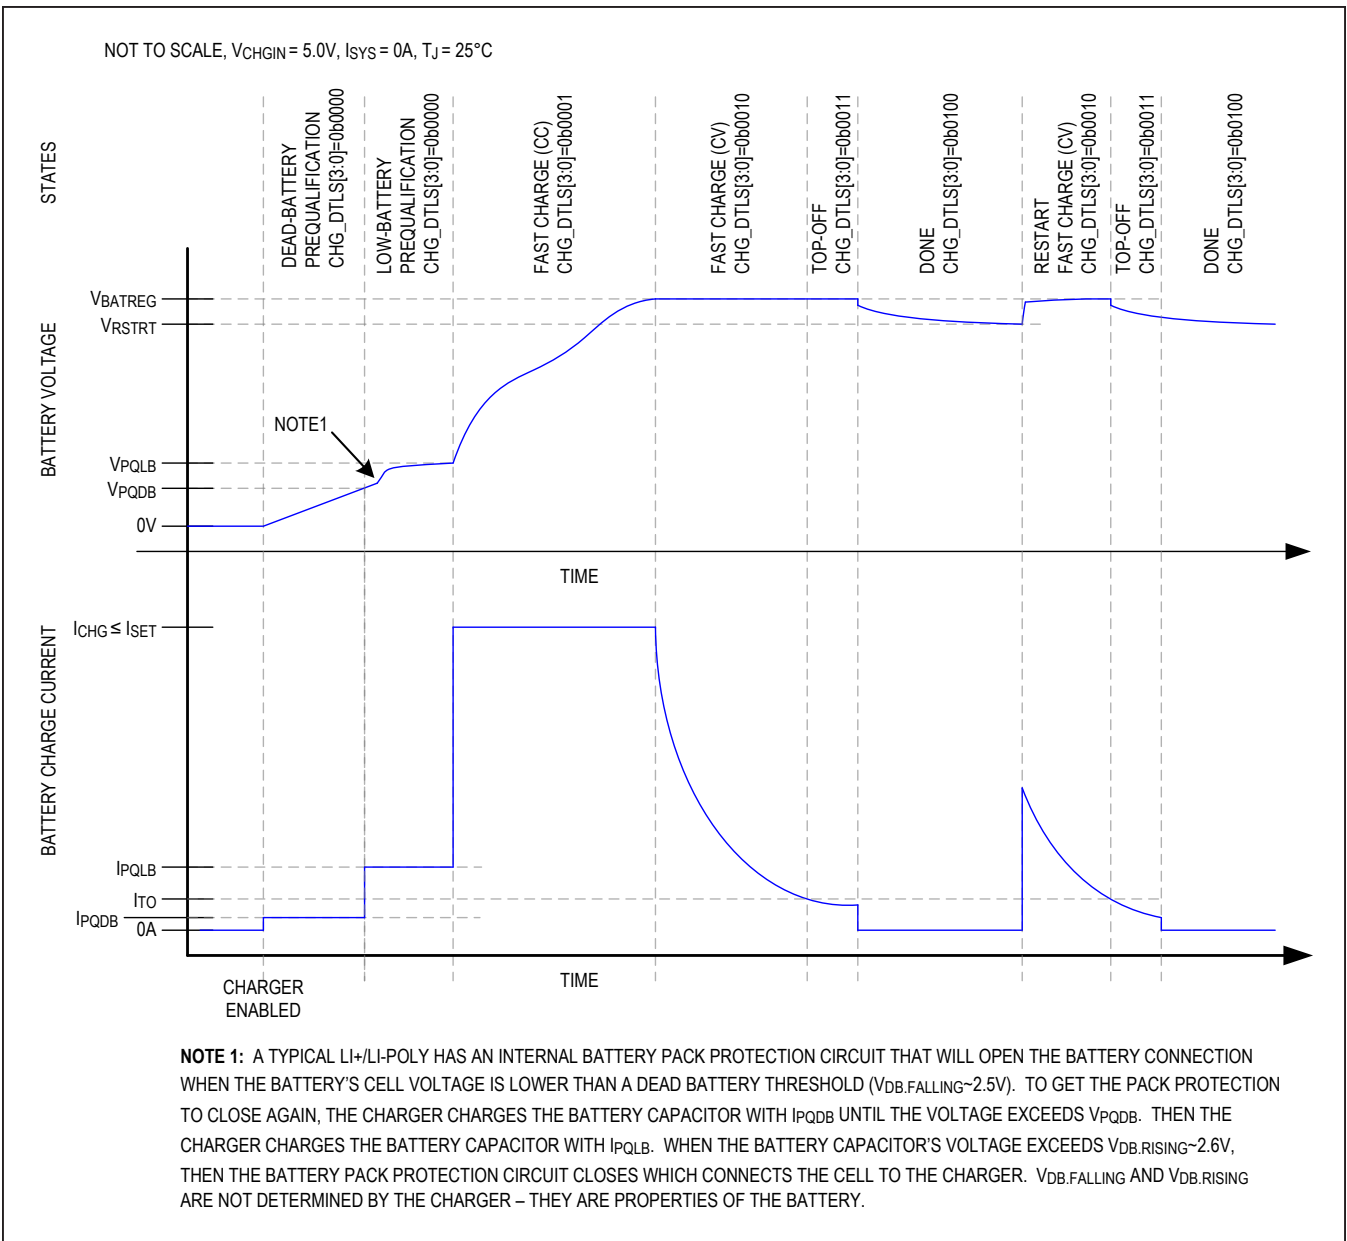
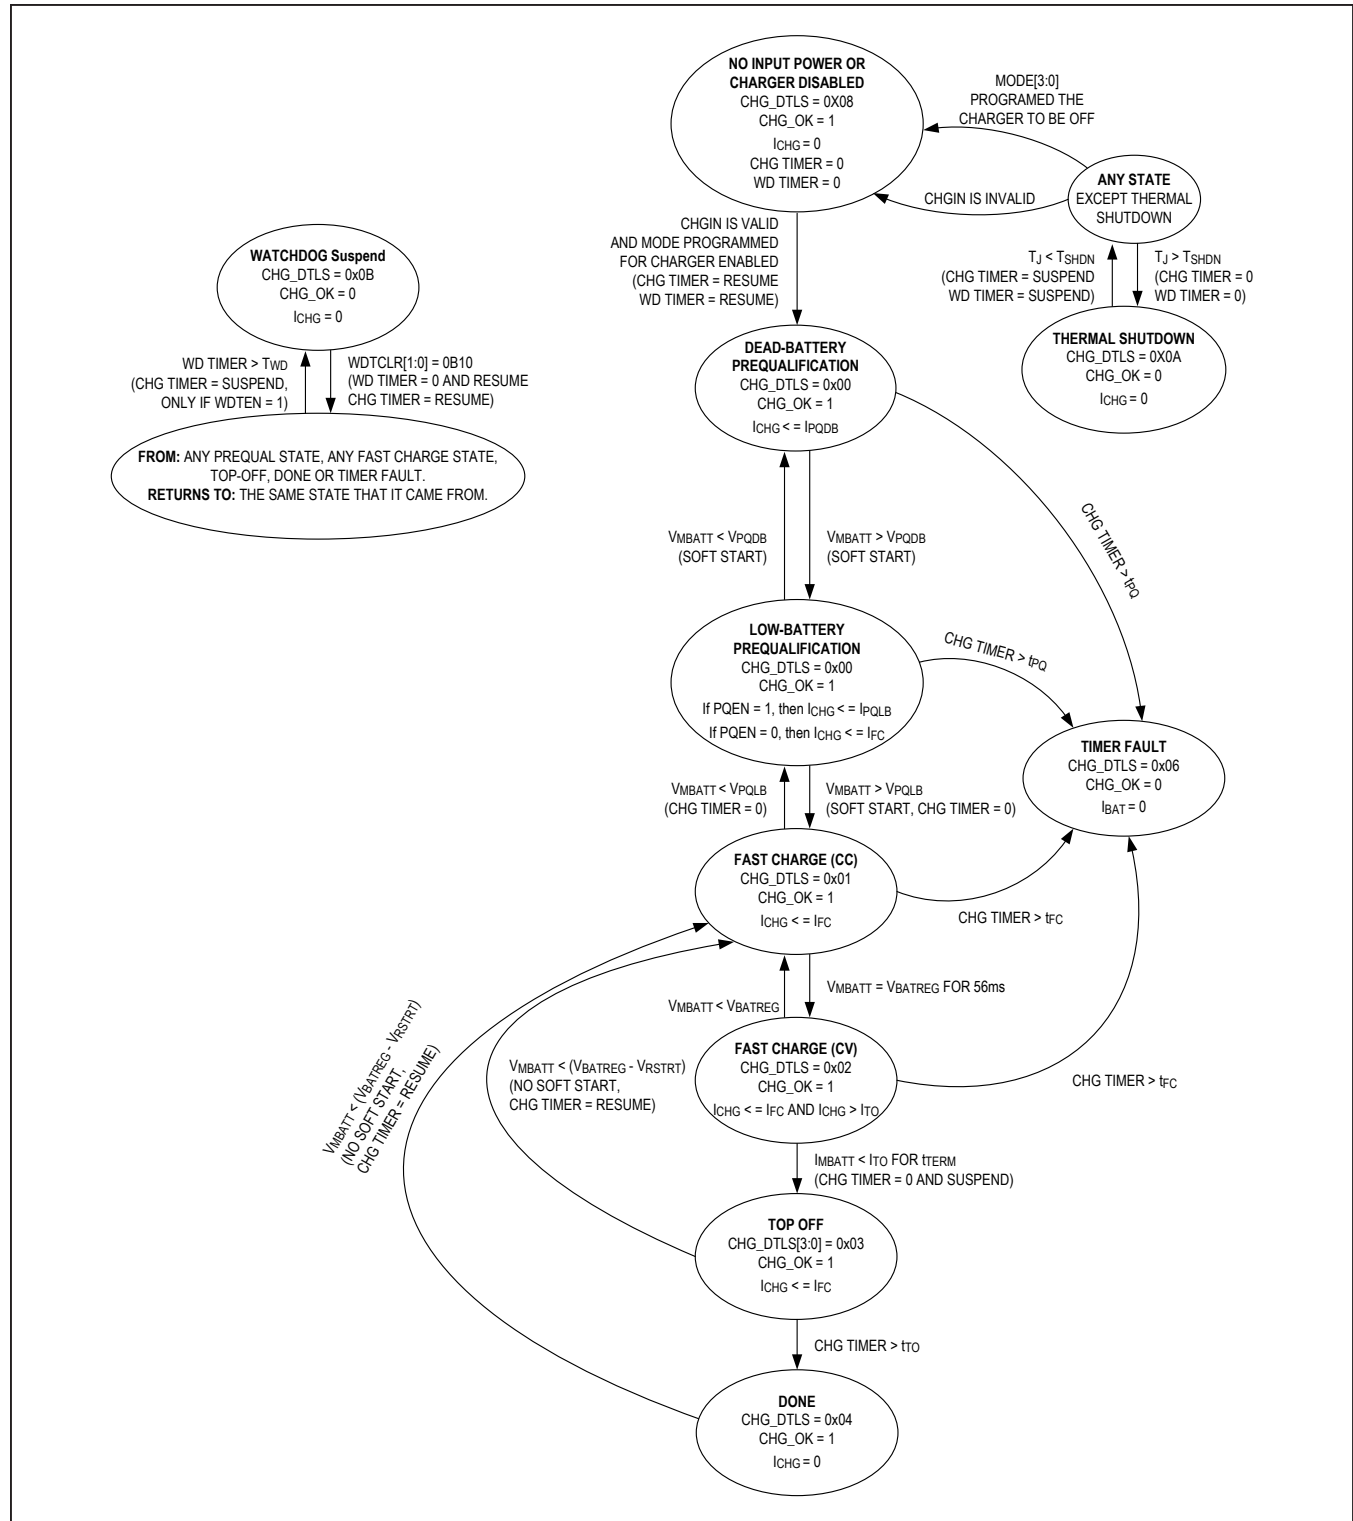

Figure 6. Li+/Li-Poly Charge Profile
Figure 7. Charger State Diagram
The MAX77818 utilizes several charging states to safely and quickly charge batteries as shown in Figure 6 and Figure 7. Figure 6 shows an exaggerated view of a Li+/Li-Poly battery progressing through the following charge states when there is no system load and the die and battery are close to room temperature: daed battery/low battery prequalification → fast-charge → top-off → done.
From any state shown in Figure 7 except thermal shut-down, the no input power or charger disabled state is entered whenever the charger is programmed to be off or the charger input CHGIN is invalid. After being in this state for t_{SCIDG} , a CHG_I interrupt is generated, CHG_OK is set, and CHG_DTLS[3:0] is set to 0x08.
As shown in Figure 7, the dead battery prequalification state occurs when the main battery voltage is less than V_{PQDB} . After being in this state for t_{SCIDG} , a CHG_I interrupt is generated, CHG_OK is set, and CHG_DTLS[3:0] is set to 0x00. In the dead battery prequalification state, charge current into the battery is I_{PQDB} .
As shown in Figure 7, the fast-charge constant current (CC) state occurs when the main battery voltage is greater than the low battery prequalification threshold and less than the battery regulation threshold ($V_{PQLB} < V_{BATT} < V_{BATREG}$). After being in the fast-charge CC state for t_{SCIDG} , a CHG_I interrupt is generated, CHG_OK is set and CHG_DTLS[3:0] = 0x01.
As shown in Figure 7, the fast-charge constant voltage (CV) state occurs when the battery voltage rises to V_{BATREG} from the fast-charge CC state. After being in the fast-charge CV state for t_{SCIDG} , a CHG_I interrupt is generated, CHG_OK is set, and CHG_DTLS[3:0] = 0x02.
In the fast-charge CV state, the battery charger maintains V_{BATREG} across the battery and the charge current is less than or equal to I_{FC} . As shown in Figure 6, charger current decreases exponentially in this state as the battery becomes fully charged.
As shown in Figure 7, the top-off state can only be entered from the fast-charge CV state when the charger current decreases below I_{TO} for t_{TERM} . After being in the top-off state for t_{SCIDG} , a CHG_I interrupt is generated, CHG_OK is set, and CHG_DTLS[3:0] = 0x03. In the top-off state, the battery charger tries to maintain V_{BATREG} across the battery and typically the charge current is less than or equal to I_{TO} .
As shown in Figure 7, the battery charger enters its done state after the charger has been in the top-off state for t_{TO} . After being in this state for t_{SCIDG} , a CHG_I interrupt is generated, CHG_OK is cleared, and CHG_DTLS[3:0] = 0x04.
The battery charger provides both a charge timer and a watchdog timer to ensure safe charging. As shown in Figure 7, the charge timer prevents the battery from charging indefinitely. The time that the charger is allowed to remain in each of its prequalification states is t_{PQ} . The time that the charger is allowed to remain in the fast-charge CC and CV states is t_{FC} , which is programmable with FCHGTIME. Finally, the time that the charger is in the top-off state is t_{TO} , which is programmable with TO_TIME. Upon entering the timer-fault state, a CHG_I interrupt is generated without a delay, CHG_OK is cleared, and CHG_DTLS = 0x06.
In the timer-fault state the charger is off. The charger can exit the timer-fault state by programming the charger to be off and then programming it to be on again through the MODE bits. Alternatively, the charger input can be removed and reinserted to exit the timer-fault state. See the any state bubble in the upper right of Figure 7.
The battery charger provides both a charge timer and a watchdog timer to ensure safe charging. As shown in Figure 7, the watchdog timer protects the battery from charging indefinitely in the event that the host hangs or otherwise cannot communicate correctly. The watchdog timer is disabled by default with $WDTEN = 0$. To use the watchdog timer feature, enable the feature by setting $WDTEN$. While enabled, the system controller must reset the watchdog timer within the timer period (t_{WD}) for the charger to operate normally. Reset the watchdog timer by programming $WDTCLR = 0x01$.
As shown in Figure 7, the thermal-shutdown state occurs when the battery charger is in any state and the junction temperature (T_J) exceeds the device's thermal-shutdown threshold (T_{SHDN}). When T_J is close to T_{SHDN} , the charger has folded back the input current limit to 0A so the charger and inputs are effectively off. Upon entering this state, CHG_I interrupt is generated without a delay, CHG_OK is cleared, and $CHG_DTLS[3:0] = 0x0A$.